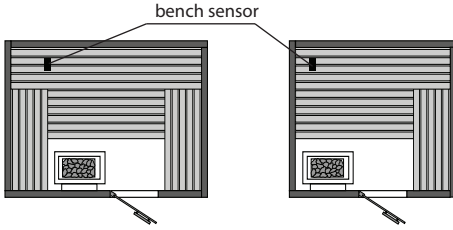

Fig. 22
**Place of installation:** The 2nd sensor (bench sensor) shall be mounted to the ceiling, over the rear bench opposite to the sauna heater (as shown on fig. 22).